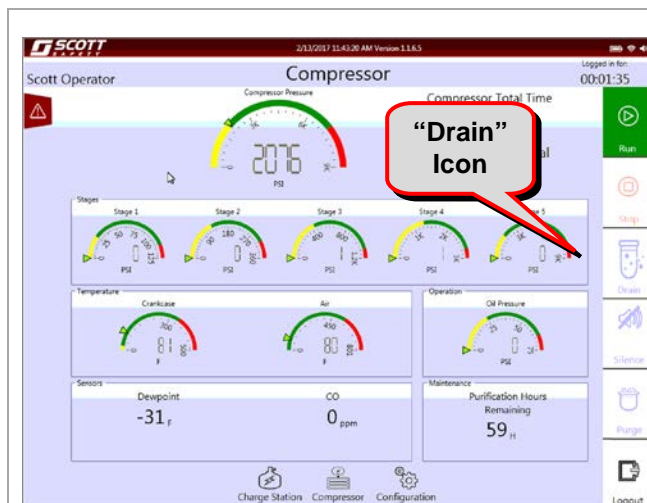

Figure 3.5-4: Manual Drain Function
- 6. The “Drain” Icon is used to initiate a drain cycle manually by touching the Icon. See Figure 3.5-4.